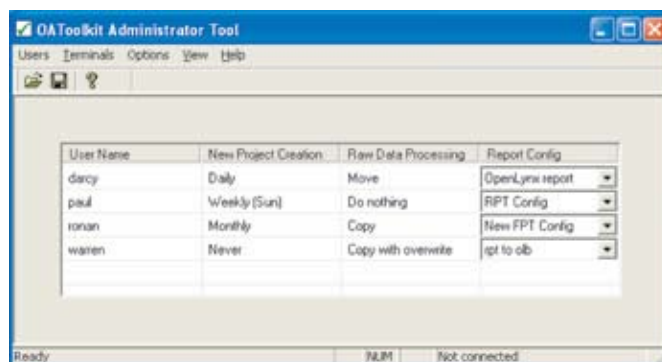

Figure 4. OpenLynx Toolkit Administrator Tool.
- **Administration Tool** (Figure 4) – Enables an administrator to create and manage all OpenLynx Open Access users from a single PC, and replicates that information to multiple OpenLynx Open Access PCs and Acquisition PCs